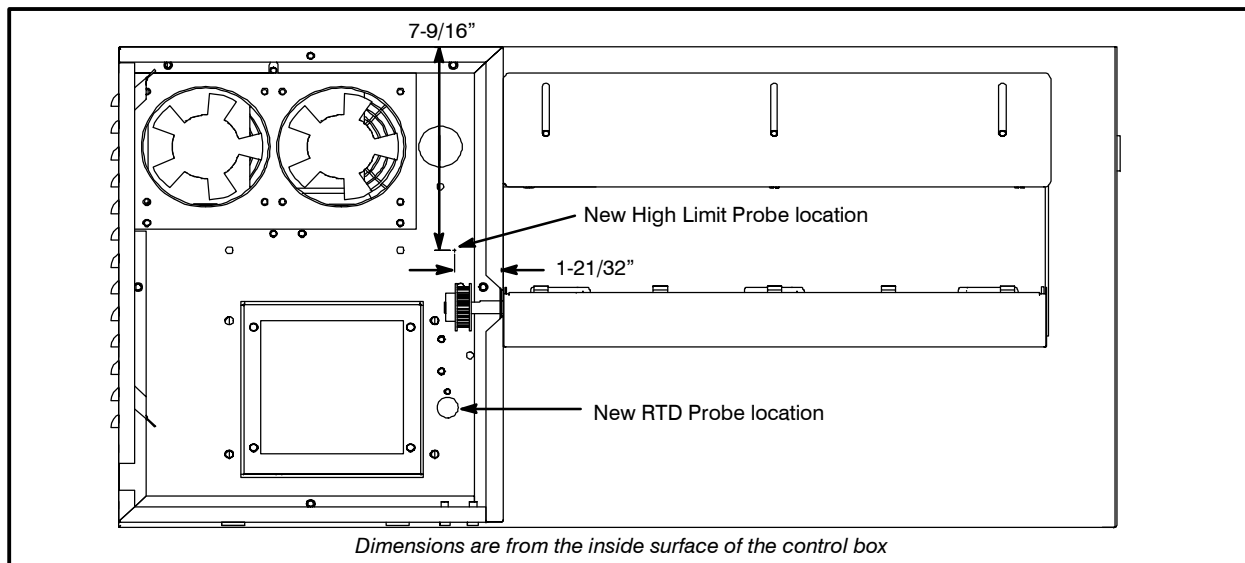

FIGURE 1
*NOTE: Refer to FIGURE 1 for correct probe locations.*
- B.) Install the high limit probe well in the location indicated in FIGURE 1. If there is no hole for the probe well, drill a .38 dia. hole through the body side and inner liner at the correct location.